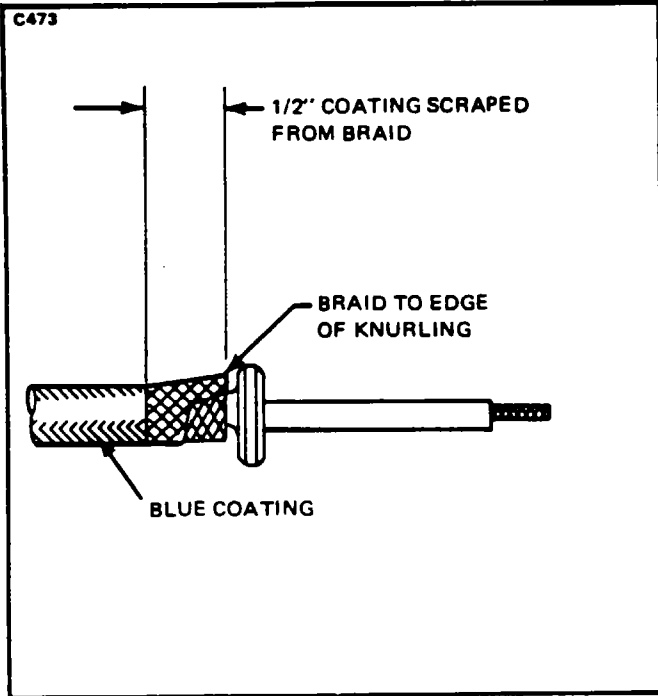

Figure 8-29. Ferrule Positioned Under Braid
6. Push back braid and thread a new ferrule over wire and under braid until braid just covers knurling. (Refer to Figure 8-29.)